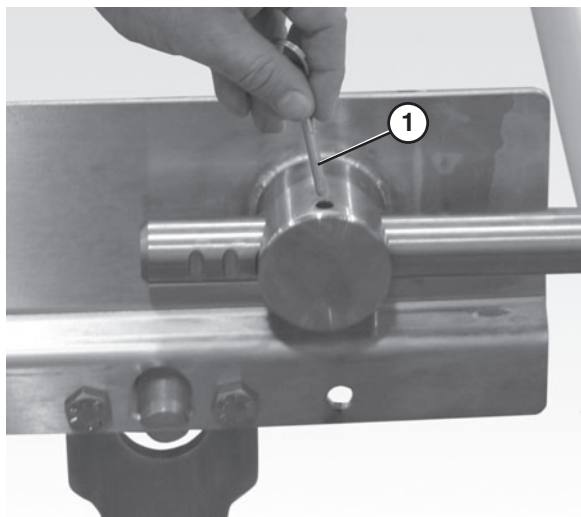

Figure 58
1. Remove the pull pins (**Figure 58, item 1**) on the tension end of the conveyor to release tension on the belt.